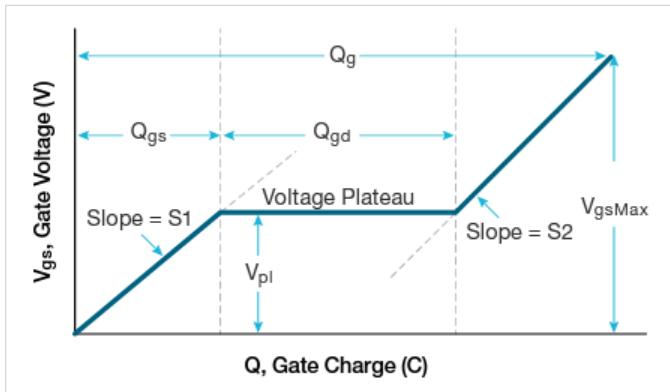

Figure 2: Typical gate voltage vs. gate charge of power MOSFET.
In the Gate Charge Method, a fixed test current (I_g) is forced into the gate of a MOS transistor and the measured gate source voltage (V_{gs}) is plotted against the charge flowing into the gate. A fixed voltage bias is applied to the drain terminal. **Figure 2** shows the gate voltage vs. gate charge of a power MOSFET.
The gate charge (Q) is derived from the forced gate current and time, ($I_g dt$). The gate-source charge (Q_{gs}) is the charge required, as shown in **Figure 2**, to reach the beginning of the plateau region where the voltage (V_{gs}) is almost constant. The plateau (or Miller) voltage (V_{pl}) is defined, according to the JEDEC standard, as the gate-source voltage when dV_{gs}/dt is at a minimum. The voltage plateau is the region when the transistor is switching from the OFF state to the ON state. The gate charge required to complete this switching, that is the charge needed to switch the device from the beginning of the plateau region to the end, is defined as gate-drain charge (Q_{gd}) and is known as the Miller charge. The gate charge (Q_g) is the charge from the origin to the point where the gate-source voltage (V_{gs}) is equal to a specified maximum (V_{gsMax}).